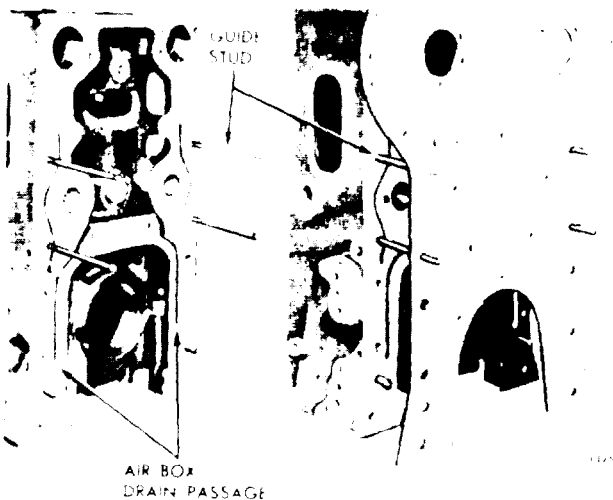

Figure 11B-20. Installing Front End Plate
2. Use guide studs J 1927-01 as shown in Figure 11B-20 to set the front end plate next to the cylinder block and install the bolts and lockwashers. Do not tighten the bolts at this time. Wipe the excess gasket cement from the bores in the end plate and the cylinder block.